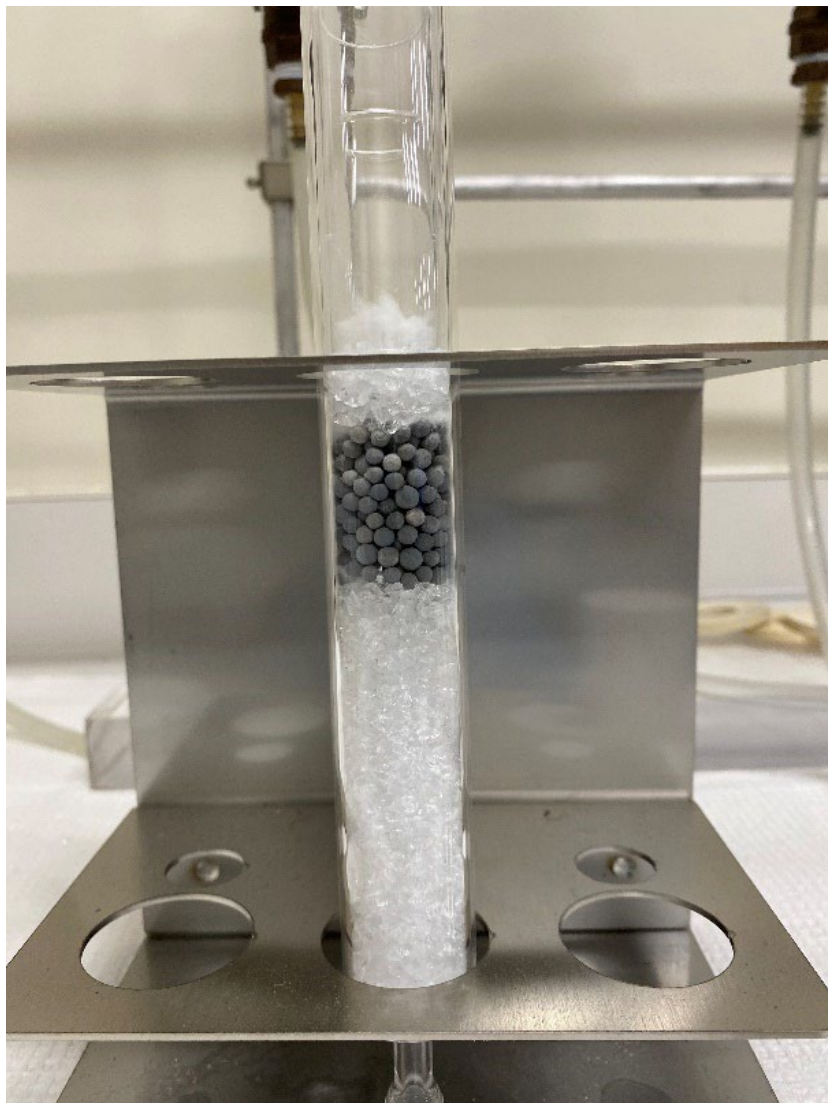

Figure 18: The filling of the combustion tube has been completed, and it is ready to be placed into the TOC Vario for use.
- 3.10.7 Place the combustion tube in the holder provided by Elementar. Fill the combustion tube such that it matches Figure 16 above and Figure 18.